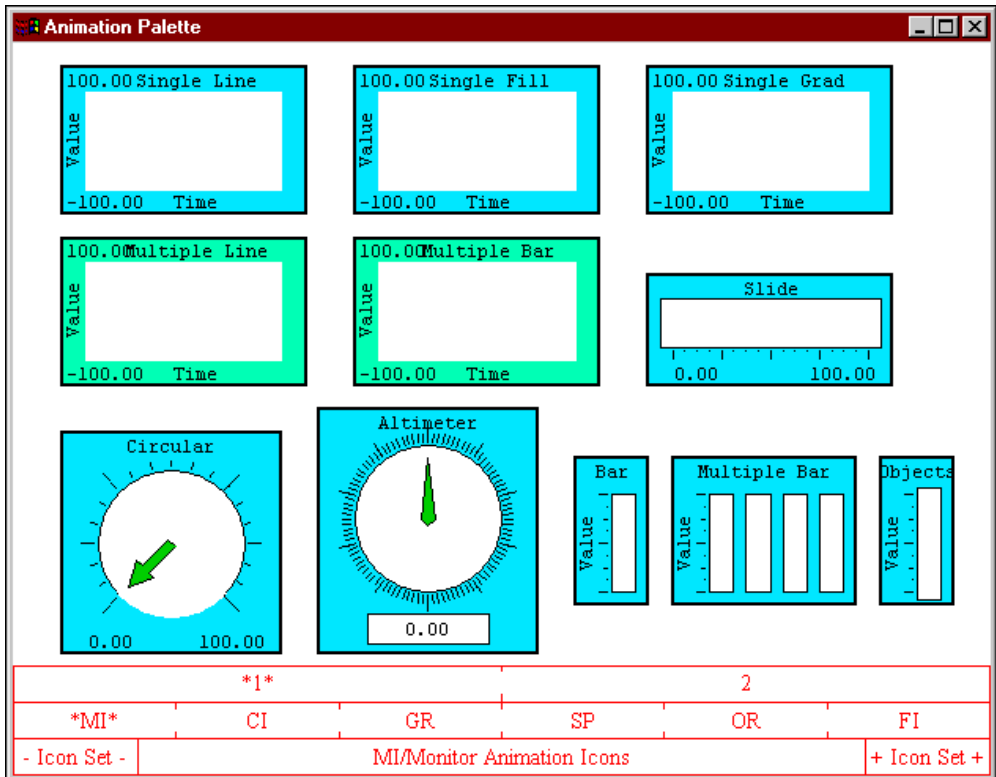
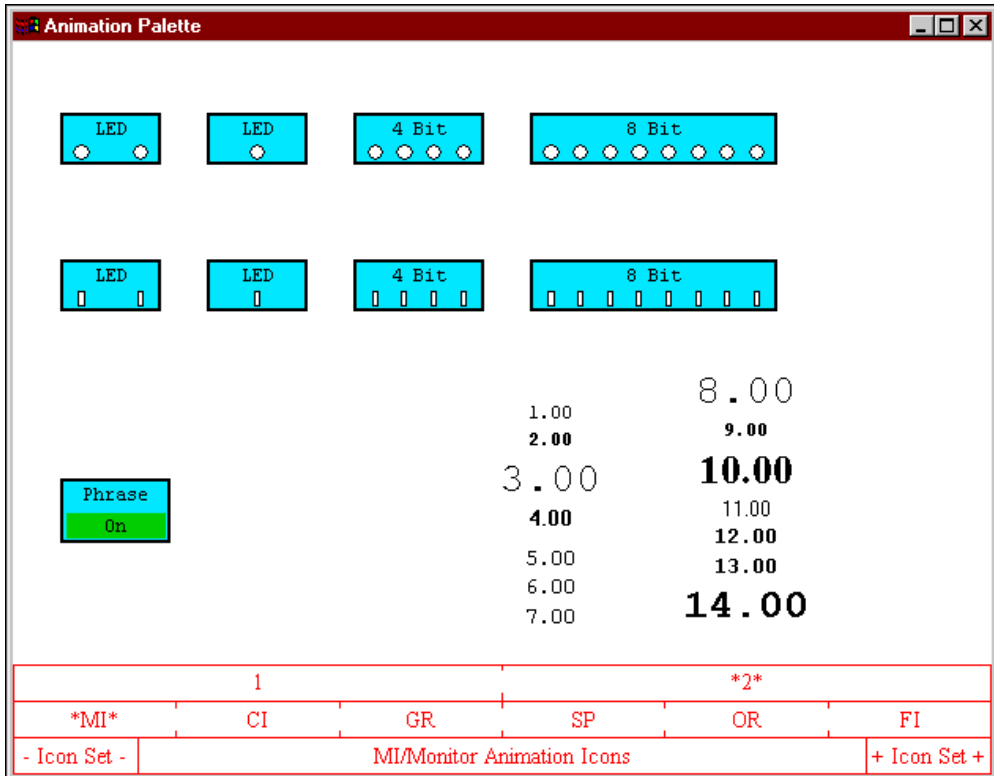

Figure 2-3. Monitor Animation Icons (Palette MI-1)
Figure 2-4. Monitor Animation Icons (Palette MI-2)
- **Monitor Animation Icons, Palettes MI-1 and MI-2**—These palettes, shown in Figure 2-3 and Figure 2-4, contain monitor icons that display outputs of your simulation.
Figure 2-3 shows a palette of strip charts, single and multiple monitor bar charts, a moving object chart, a slide indicator, a circular indicator, and an altimeter indicator with double hands.
- Figure 2-4 illustrates eight digital display (LED) icons plus numerical displays and a switchable phrase display. The 4-bit and 8-bit LED displays operate as counters, indicating the values of discrete signals from the SystemBuild model in a binary format, which for 4-bit displays can range from 0 to 15, and for 8-bit displays can range in value from 0 to 255.